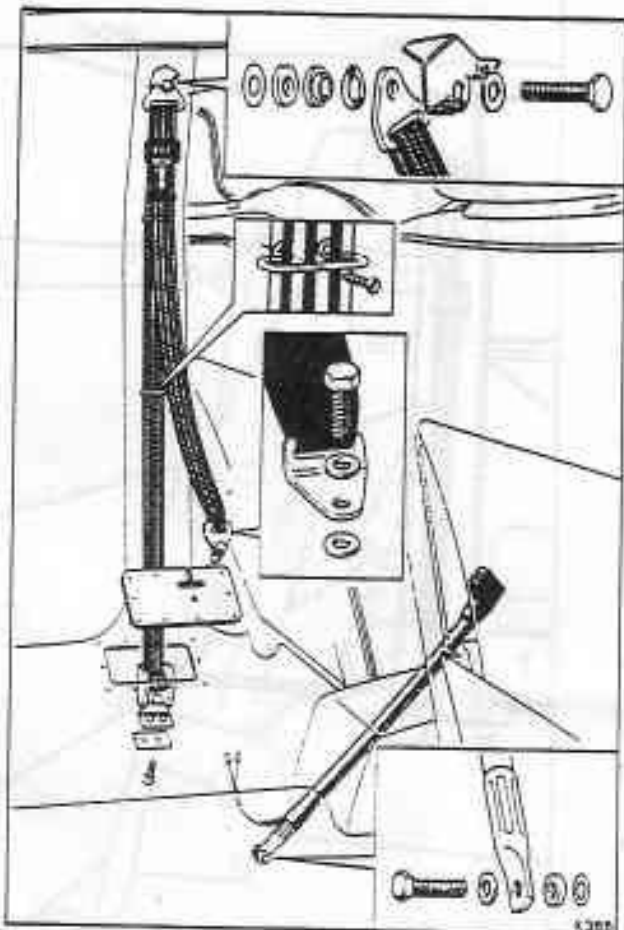

Fig. S6-2 Removing the front seat belt and stalk
the belt through the access hole in the plate; remove the plate (see fig. S6-2).
8. Remove the bolt, washers, spacer, etc., from the top seat belt fixing point on the 'B & C' post. Allow the belt to retract into its reel (see fig. S6-2).
9. From the exterior of the car, locate and remove the two bolts and plate retaining the reel in its recess; these are located under the sill as shown in figure S6-2. Remove the seat belt.
protruding from the seat belt stalk before releasing the bolt and removing the stalk from the tunnel (see fig. S6-2).